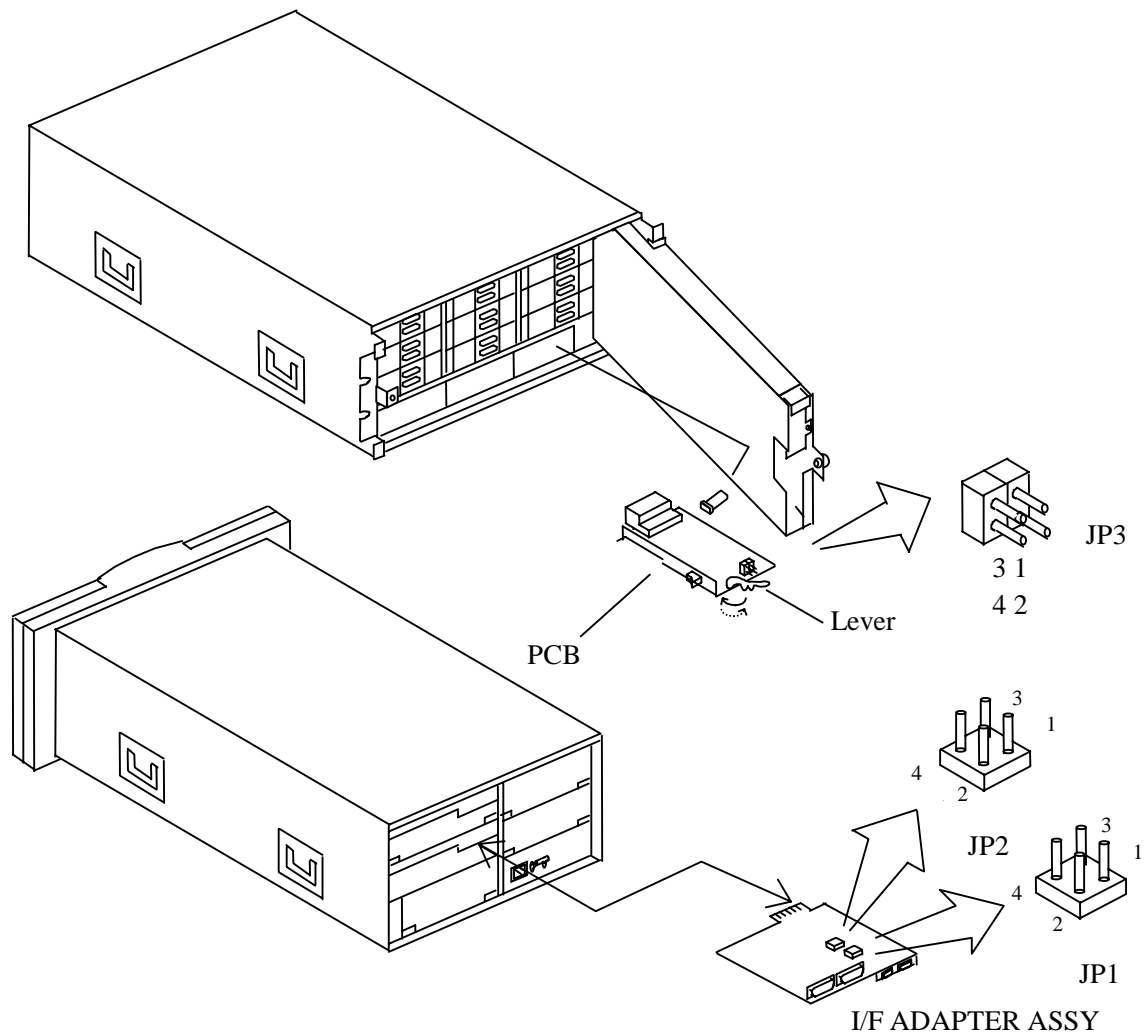

Figure 4.8.1 Setting the Terminator Power(DF300-RK)
7. Set the JP1 and JP3(SW2) according to Figure 4.8.1 and Table 4.8.1. (Set JP2(equipped on I/F ADAPTER ASSY for only Wide SCSI like DRWDS or DRWSS) with the pins 1 and 2 short-circuited.)